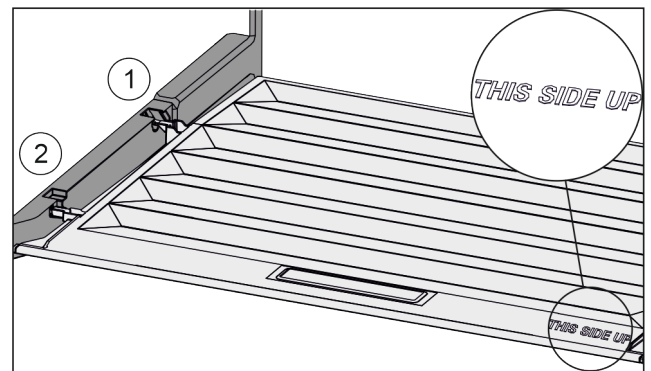

Fig. 124
- ▶ Insert the lip of the cover over the opening of the rear bracket *Fig. 124 (1)* and click into place *Fig. 124 (2)*.